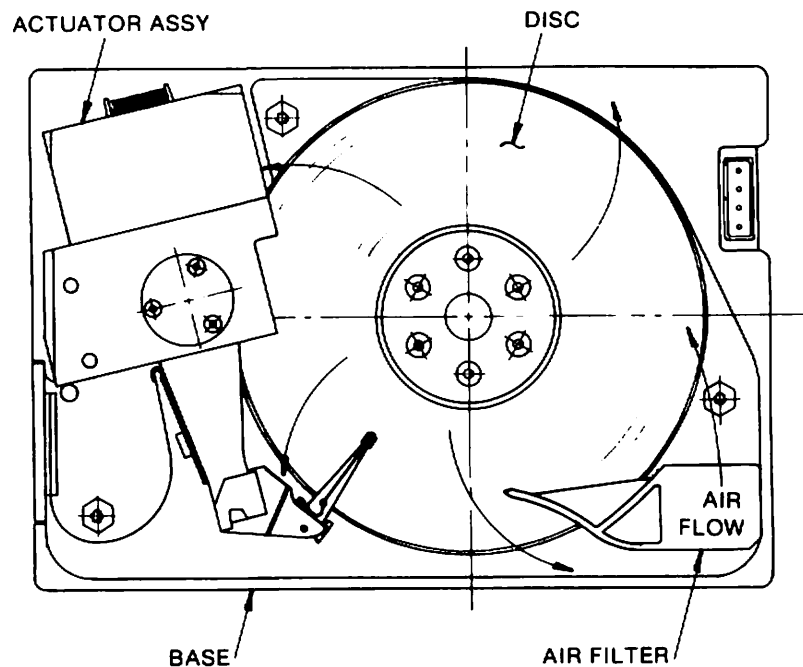

Figure 2-1
2.4 Air Filtration System (Figure 2-1)